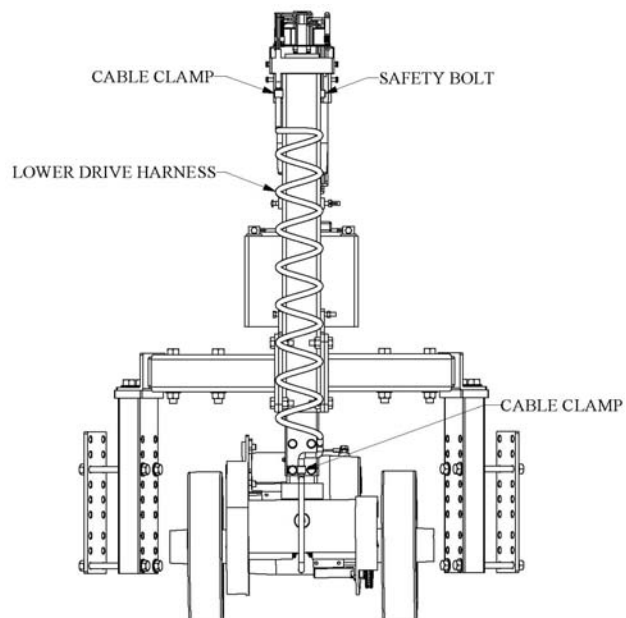

Fig. 1.16
14. Locate the two (2) wiring harness cable clamps on the rear of the unit (one is located on the safety bolt just below the rear of the lift motor mounting plate and the other is located on one of the steering housing mounting bolts). Note their placement and orientation. Refer to Fig. 1.16.
16. Locate the four (4) screws that secure the receiver PCB to the PCB support brackets. Notice the small urethane washers between the PCB and the PCB support brackets. The urethane washers have adhesive on one side and are adhered to the PCB support brackets.
6. Refer to Figs. 1.16, 1.17, & 1.18 and route all wires of the wiring harness to their proper locations. Do not place the ring terminals onto the motor terminals at this time.
7. Secure the lower drive unit wiring harness to the back of the unit using the original cable clamps in their original locations. Refer to Fig. 1.16.